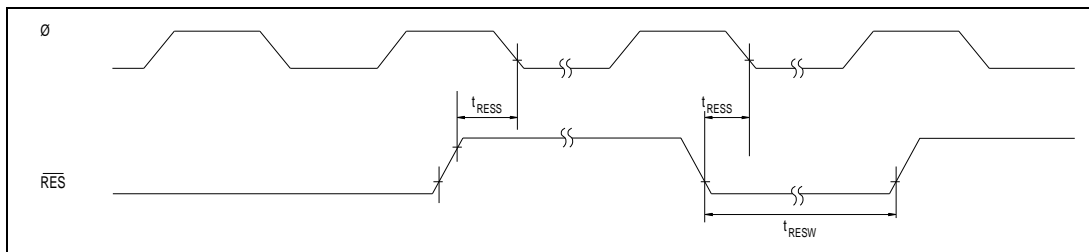

Figure 16-6. Reset Input Timing
16.3.2 Control Signal Timing	Figures 16-6 to 16-9